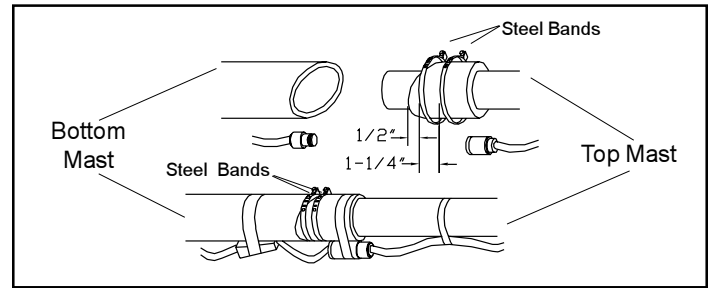

Figure 5. Joining the Mast Sections
4. Slip the mast sections together and position the bands as shown in Figure 5. Tighten the bands securely; the recommended tightening torque is 45-60 in-lbs. Then, join the connectors, making the connections snug, but do not apply heavy force with pliers. Carefully wrap VAPOR-WRAP™ (part no. 11317 or 11316) around the connection to seal out moisture problems. Secure the connectors to the mast with several wraps of tape (see Figure 5).